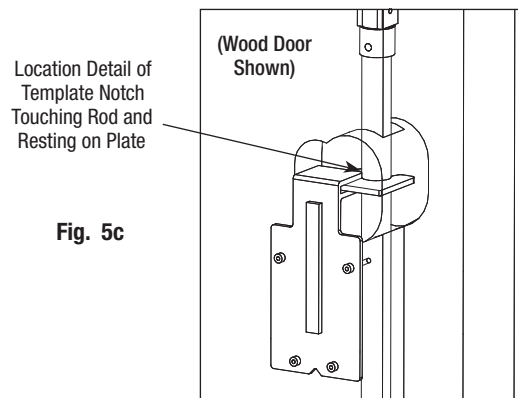

Fig. 5c
2. Mount template onto plate as shown. For wood doors, ensure the template notch is touching the rod to provide lateral positioning. (See Figure 5c).